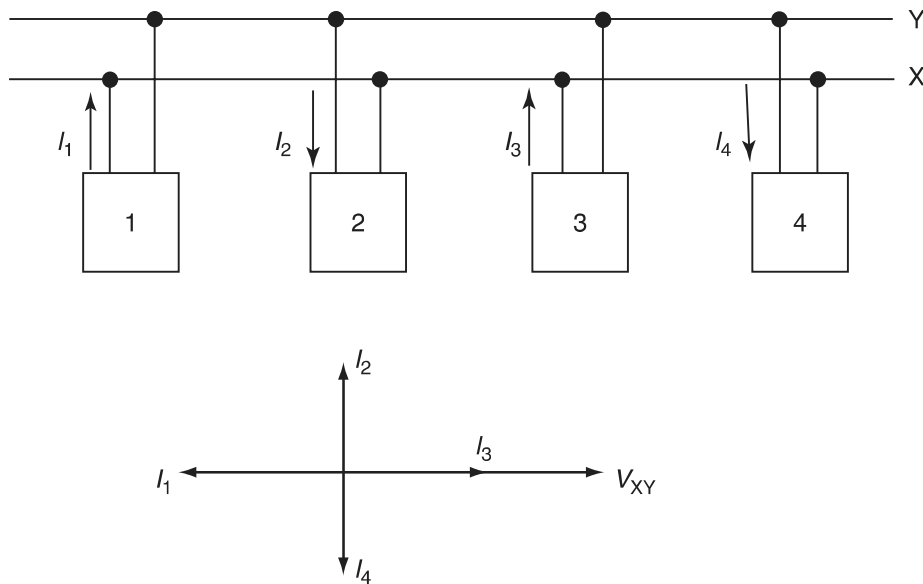

FIGURE P3.1
- 3.1** Four boxes represent an AC generator, reactor, resistor, and capacitor and are connected to a source bus XY as shown in Figure P3.1. From the circuit and phasor diagrams, identify each box.